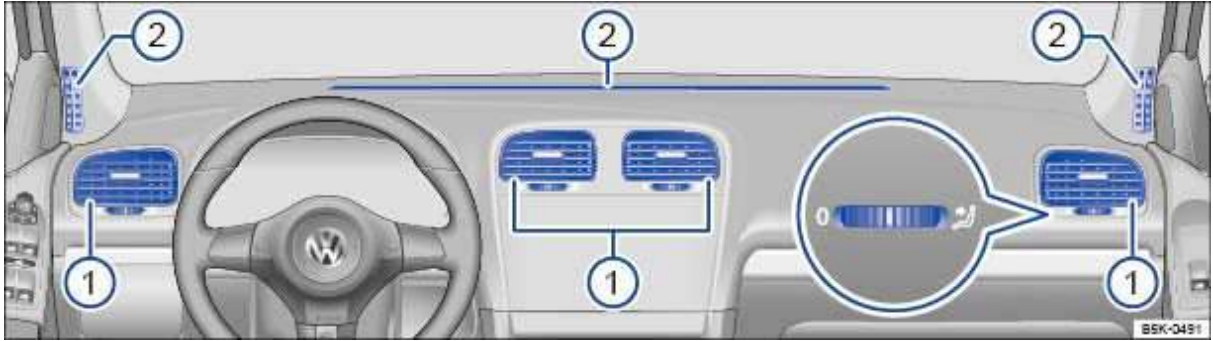

Fig. 148 In the instrument panel: Air vents.
To help ensure sufficient heating, cooling and ventilation in the passenger compartment, never close the air vents completely ⇒ fig. 148 (1).